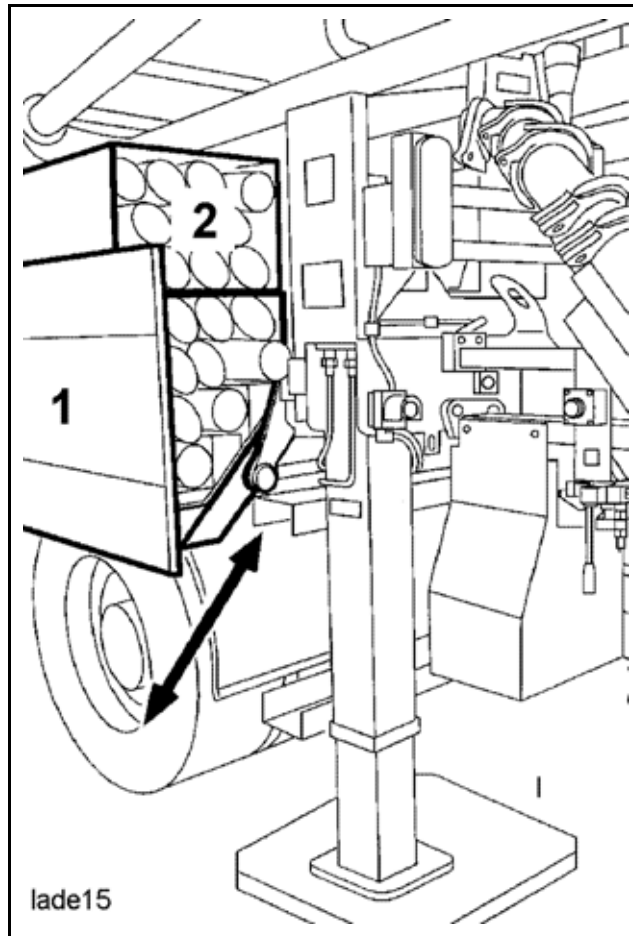

Fig. 484
The stowing box (1) (**Fig. 484**) is fitted with sleeves to receive 3-m-long pumping pipes or hoses.
As an additional accessory, the stowing box can be closed at the top with an enclosure or supplemented with an additional box (2) (**Fig. 484**).